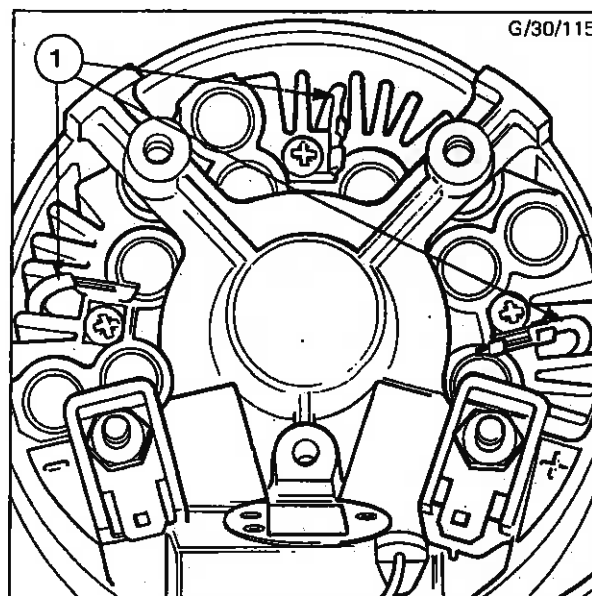

Fig. 76 - Terminating the Stator Leads
2. Hold the end shield over the stator, so that the three wide spaces on the heat sink finning coincide with the three stator leads. Carefully lower the slipping end shield onto the stator and align scribe marks. (Refer to operation No. 6 of 'Dismantling' procedure). Insert stator phase leads (1) into heat sink tags and solder in position - see Fig. 76.